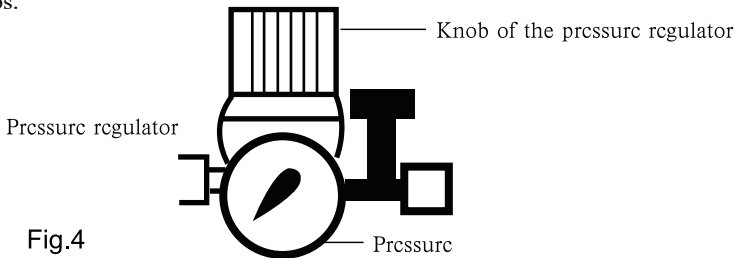

Fig.4
a. pull out upward the knob of the pressure adjuster, turn clockwise to increase the exhausting air pressure to a rated maximum pressure the same as in the air storage tank (Figure 4)